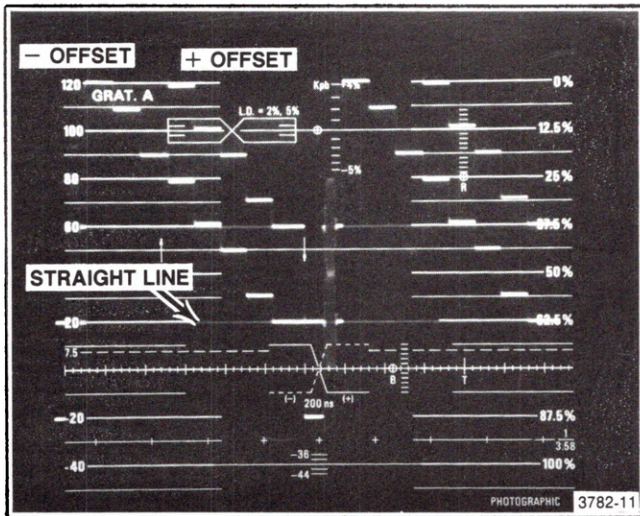

Fig. 2-2. Measuring luminance gain with the VAC.
- Use the VAC Variable to match the Sync tip to the reference level (see Fig. 2-2). Greater resolution can be obtained by setting the 1480 Volts Full Scale to 0.5 or 0.2.
- CHECK—duration of the W,Q, and B portions of the -I,W,Q,B signal (see Fig. 2-2) by placing each portion within the graticule area with the Delay Time Multiplier. Duration of each portion should be 9.4 μ s within 400 ns (9.0–9.8 μ s).